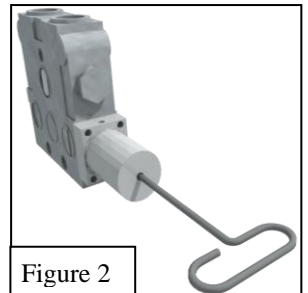

Figure 2
2. Using 3/16" Allen Wrench in rear fitting port of Cylinder, thread Cylinder onto Valve Spool as shown in Figure 2. Tighten firmly to 96 in-lbs by holding spool on opposite end.